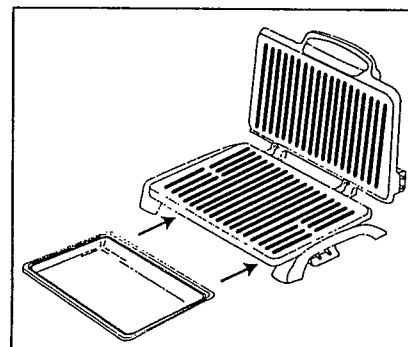

Figure 1
3. Slide Drip Pan onto ledge under Grilling Plate. See Figure 1. Push Drip Pan all the way back.